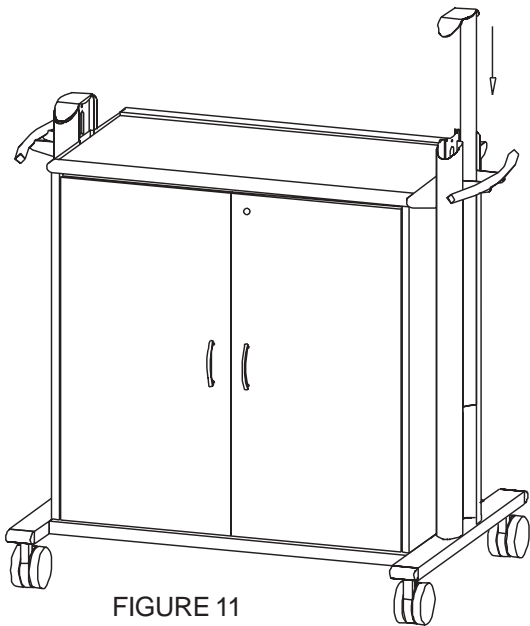

FIGURE 11
Slide the insert panels inside the uprights as shown in **FIGURE 11**. Fasten insert panels in place with screws (OO) as shown in **FIGURE 12**.